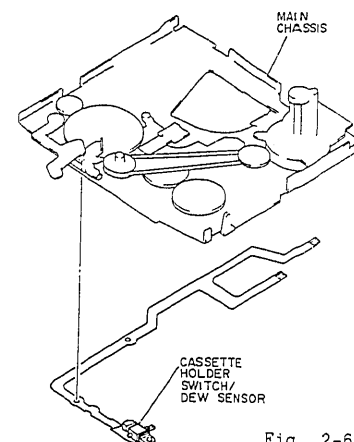

Fig. 2-61
- 2) Peel out the cassette holder switch/dew sensor from the main chassis. (See Fig. 2-61)